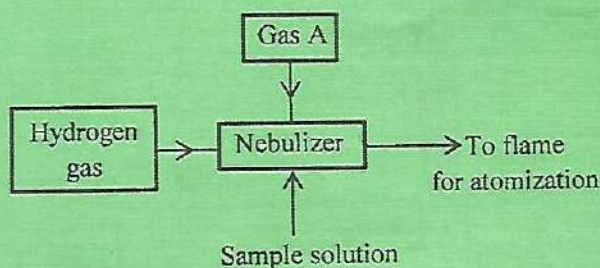

Fig. 3
7. The set-up in Figure 3 was used in a flame atomic spectroscopic estimation of magnesium in gypsum.